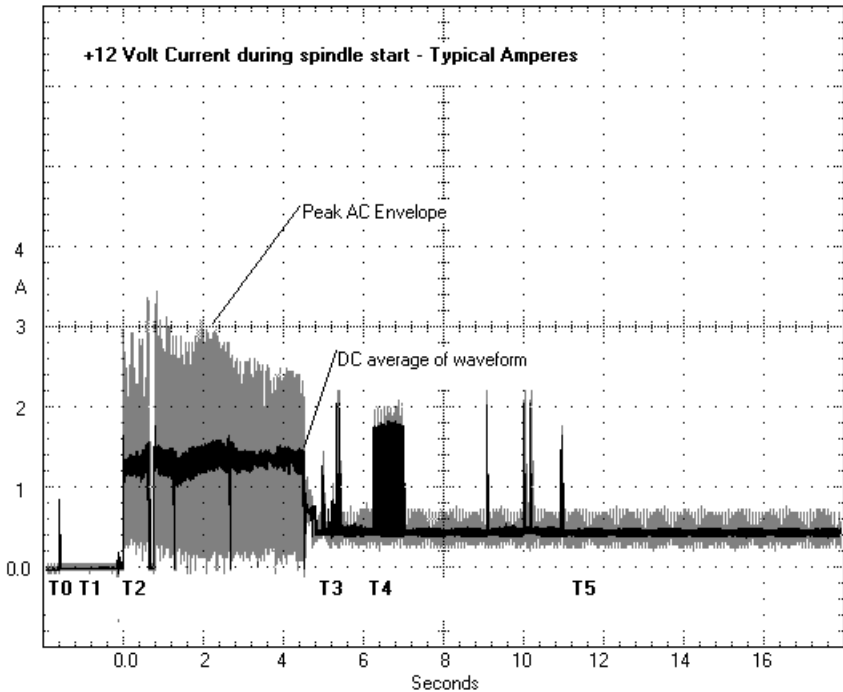
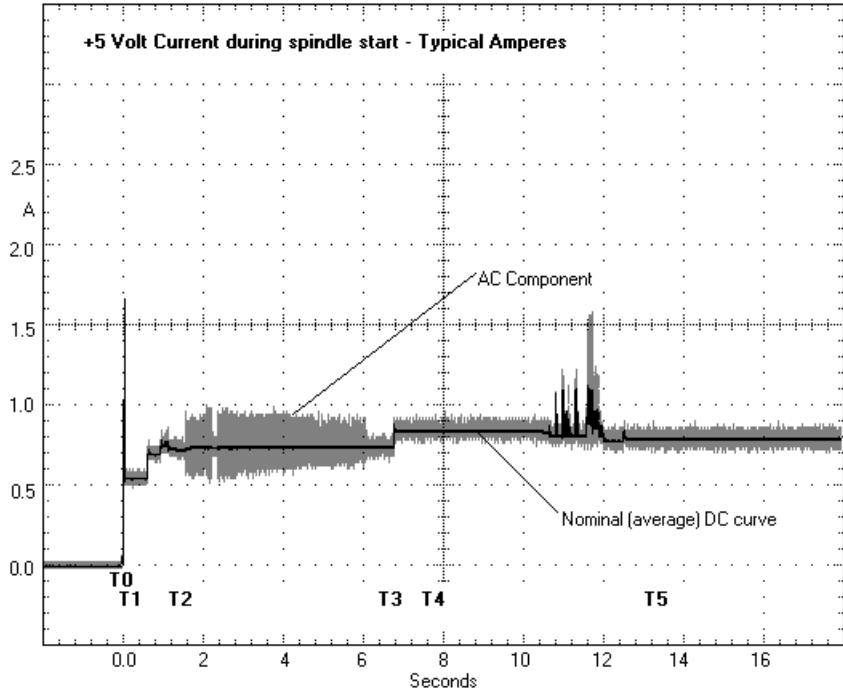

Figure 2. Typical ST3146807drive +12 V current profile
Figure 3. Typical ST3146807 drive +5 V current profile
- [3] See +12 V current profile in Figure 2.
Figure 2, 4 and 6 identify the drive +12 V current profiles and figures 3, 5 and 7 identify the drive +5 V current profiles. The current during the various times is as shown: